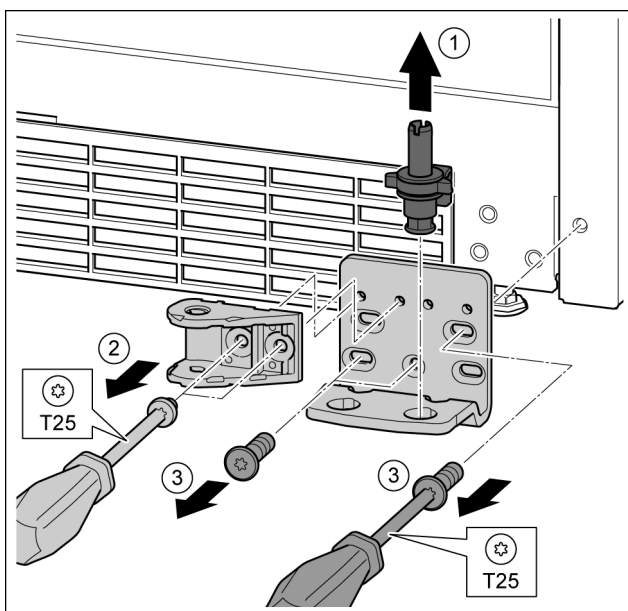

Fig. 30
- ▶ Lift the bearing pin completely upward and remove. *Fig. 30 (1)*
- ▶ Remove the screws with the T25 screwdriver and remove the soft stop connection. *Fig. 30 (2)*
- ▶ Undo the screws with a T25 screwdriver and remove the bearing bracket *Fig. 30 (3)*